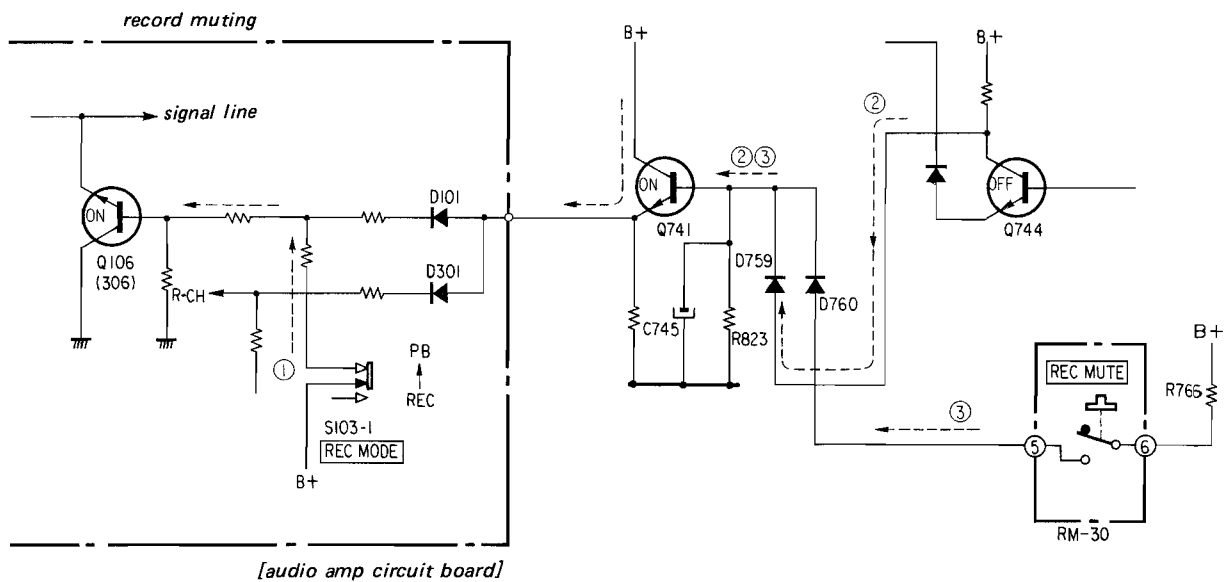

Fig. 17
**15. Record Muting (Refer to Fig. 17)**